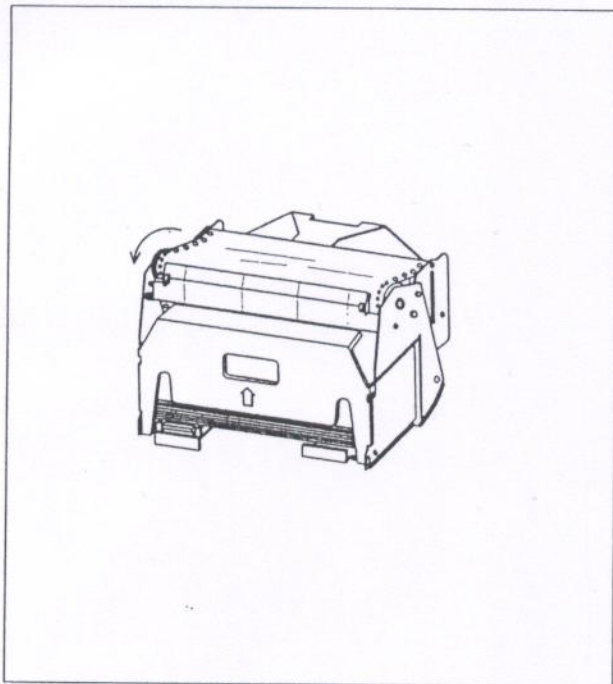

Fig 5.7
3) Lightly pull paper guide to the recording paper as fig 5.7 check if the recording paper is being folded by 2-3 time rotating drum.